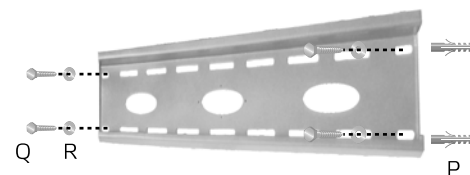

Figure 3 – Attach wall plate to wall.
4. Attach wall plate by inserting lag bolts (Q) through lag bolt washers (R) into masonry anchors (P) and tighten. Do not over tighten. See Figure 3.